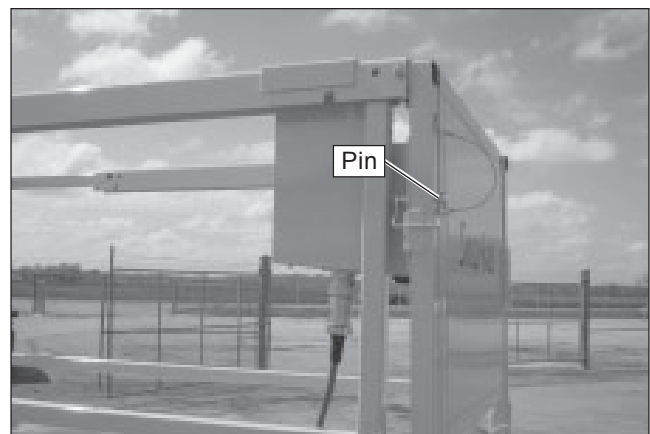

Figure 9.7 – Upper Controls
4. Remove the pins that connect the upper controls to the guardrails (refer to Figure 9.7). Lay the upper controls on the floor of the platform.